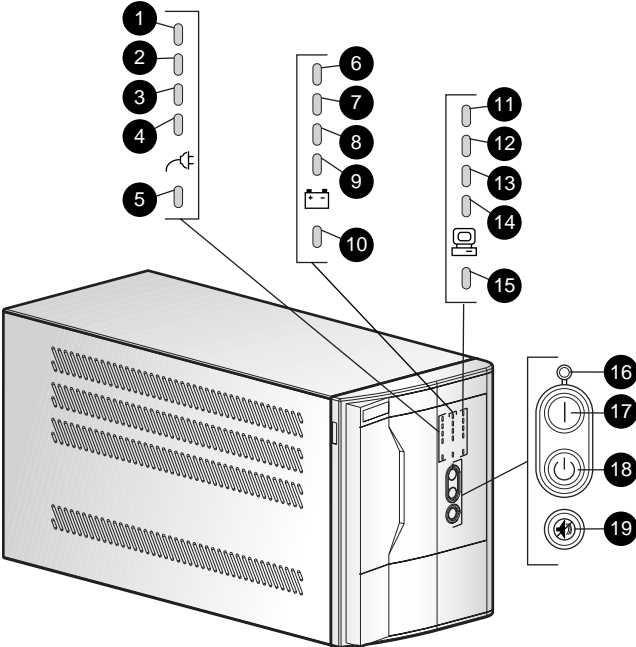

Figure 4-2. The front panel LED display and controls
1. Place the UPS in Configure mode by pressing the ON (❷) and TEST/ALARM RESET (❹) buttons simultaneously. Release the buttons when the acknowledgement beep sounds.
3. To determine if the selected configuration parameter value is ON or OFF, check LED 16 (❶)—if LED 16 is ON, the selected parameter is also ON.
4. To toggle the selected configuration parameter value, press the TEST/ALARM RESET button (❹). The UPS will acknowledge compliance with a short beep.
5. To scroll through the configuration parameters, press the ON button (Ⓜ). The UPS acknowledges compliance with a short beep. Monitor the LED display (see Figure 4-2; LED 1 blinks to indicate that parameter 1 is selected, LED 2 blinks when parameter 2 is selected, and so on).